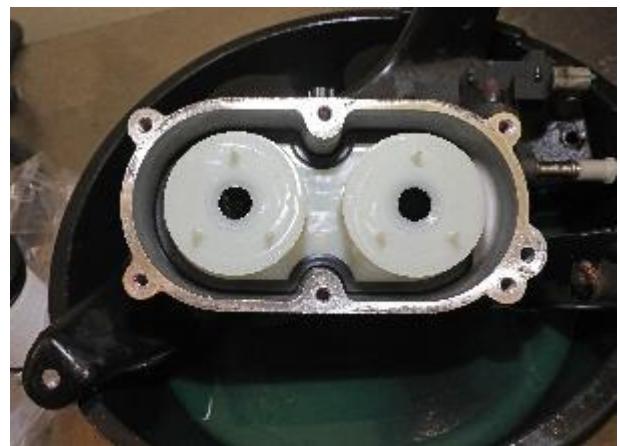

Figure 31 – Screen Installed
66. Install the **NEW** screen into the housing as shown in Figure 58. Check that the screen is fully and evenly seating into the housing (Figure 31).